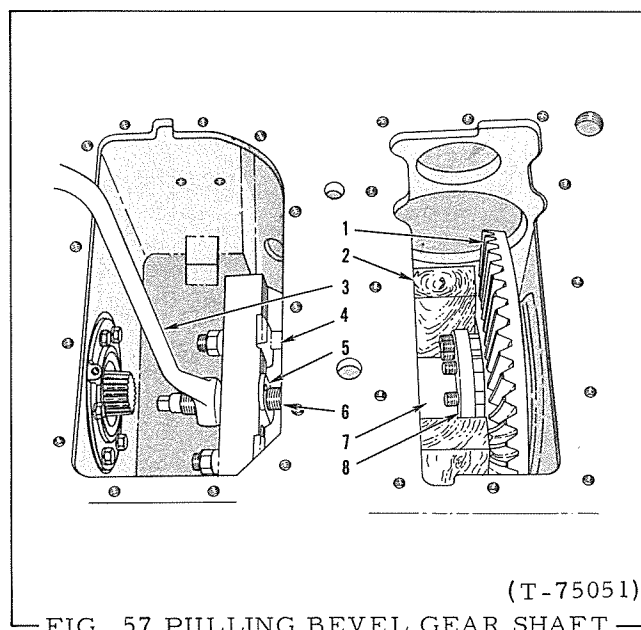

FIG. 57 PULLING BEVEL GEAR SHAFT
4. Refer to Fig. 57, place wooden blocks between bevel gear teeth and compartment wall to hold gear stationary. Install puller tools on end of shaft facing bevel gear teeth; pull bevel gear shaft from bevel gear.